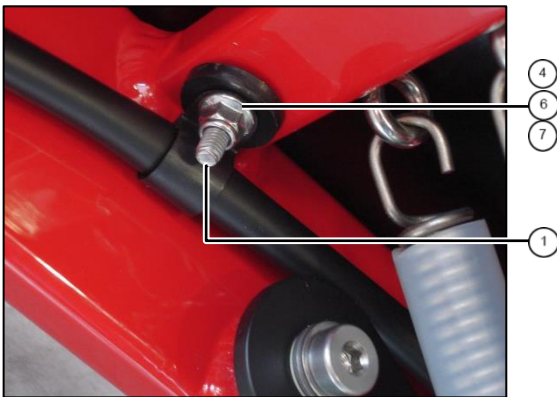

fig. 3: bolt M5x40
3. Mount bolt M5x40 ^①, plastic spacer 5x20x3 ^⑥, washer ^⑦ and nut ^④ (fig.3).